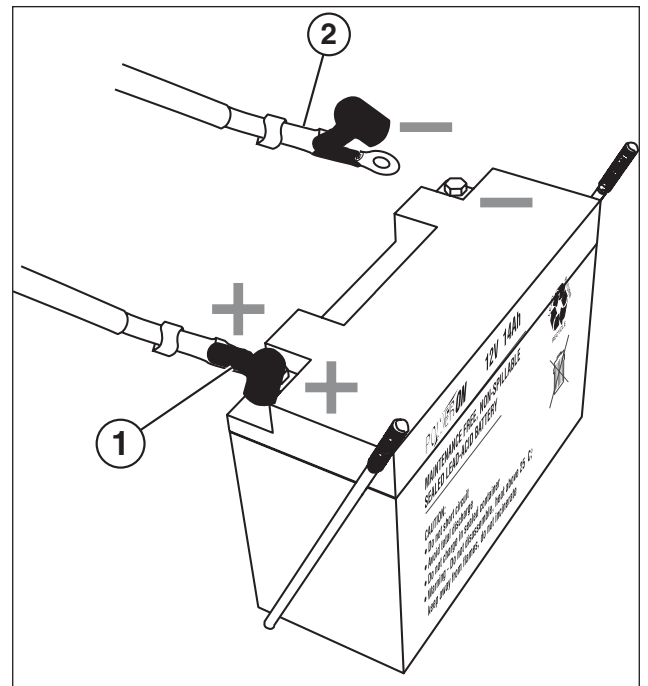

Figure 8 – Attaching the Negative (-) Battery Cable (Black)
4. Pull back the black boot and securely attach the negative (-) battery cable (black boot) to the negative (-) battery post as shown in *Figure 8*. Replace the black boot so it protects the cable lug and battery post.